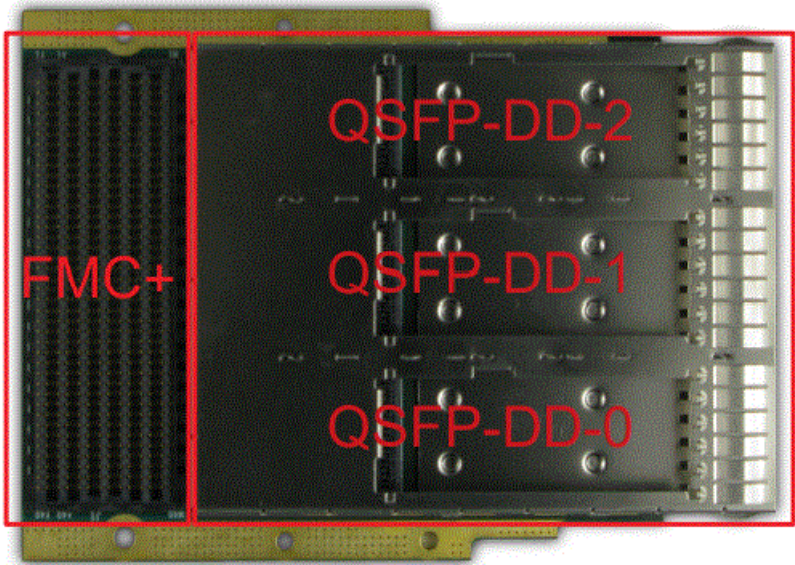

Figure 3 : FMC-PLUS-QSFP-DD Top Side Features
- Figure 3: FMC-PLUS-QSFP-DD Top Side Features